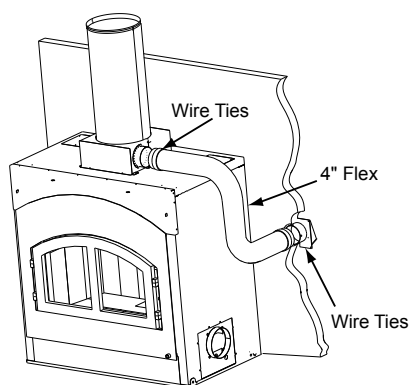

Figure 23.1 Installing Flex Pipe
3. Seal around the cap and flex with caulk to stop air from getting in to the chase (See Figure 23.1 on page 23).